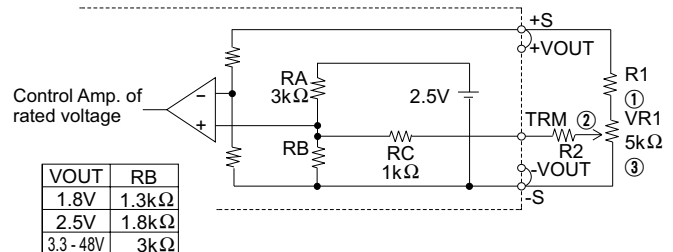

Fig. 4.5 Connecting External Parts
- Output voltage can be adjusted by connecting an external potentiometer (VR1) and resistors (R1 and R2) as shown in Fig. 4.5. Output voltage will increase if the resistance between ① and ② is reduced by turning the potentiometer clockwise. Recommended values for external components are shown in Table 4.2. Consult us if the power module is used in a different configuration.